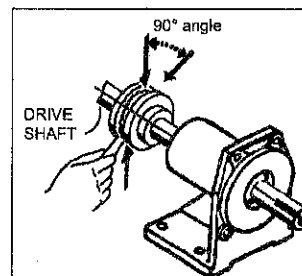

FIGURE 6.
8. To avoid angular misalignment, insert a measuring device (taper gauge or feeler gauge) between the coupling faces at four locations 90° apart (See arrows in Figure 6) and measure the gap at each of the four locations. For proper alignment all four measurements should be equal. Reshimming may be required to achieve this alignment.